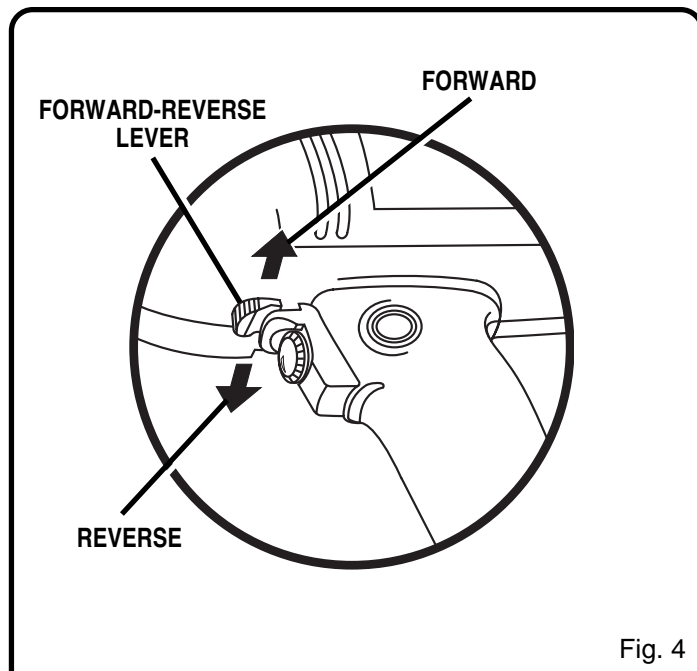

Fig. 4
See Figure 4.
2. Check the direction of rotation lever for correct setting (forward or reverse). See Figure 4, Page 7.